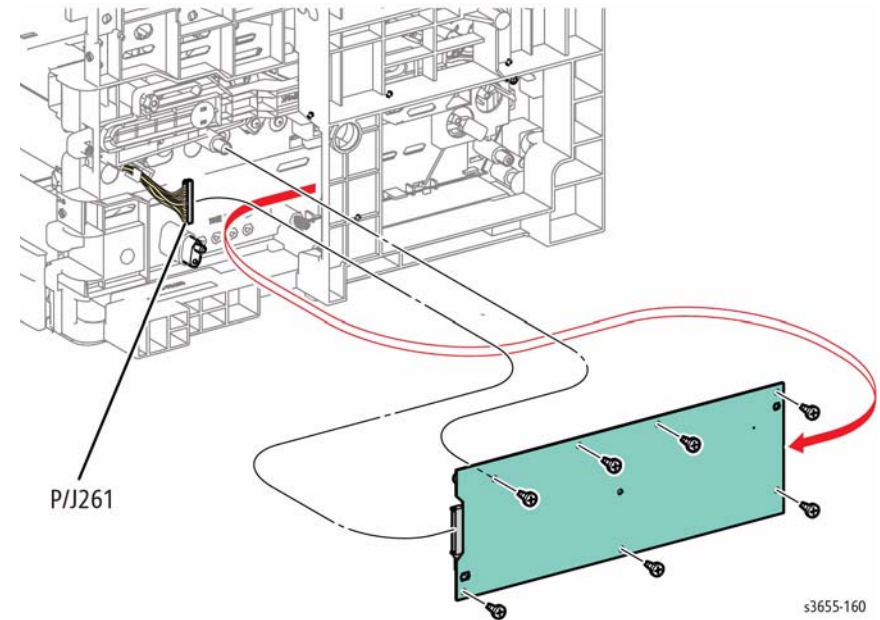

Figure 1 Remove the HVPS
5. Refer to Figure 1 to disconnect the HVPS, locate and remove 7 screws (silver, tapping, 8mm), and release 2 bosses to remove.